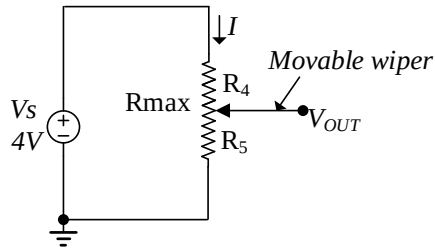

Figure 3
1. Build the circuit shown in Figure 3 on the breadboard. Apply a 4V input voltage across the end terminals of the potentiometer using the 4V fixed output on the DC power supply.